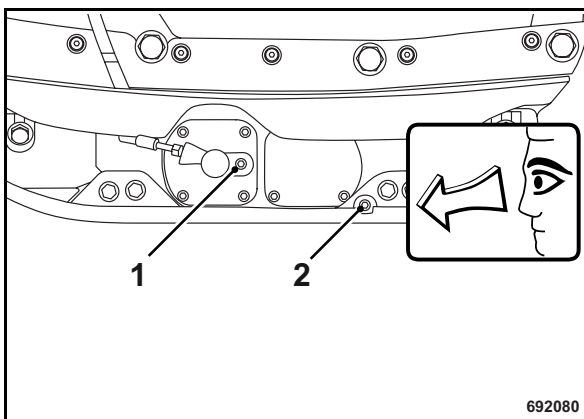

Fig. 53
- Unscrew the bleeder screw (1) (Fig. 53).
- Unscrew the oil level inspection plug (2) and check the oil level.